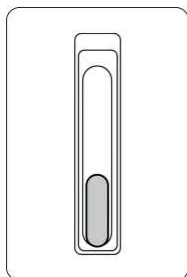

Figure.1
1. The door of the cabinet is in locked state. See the Figure.1